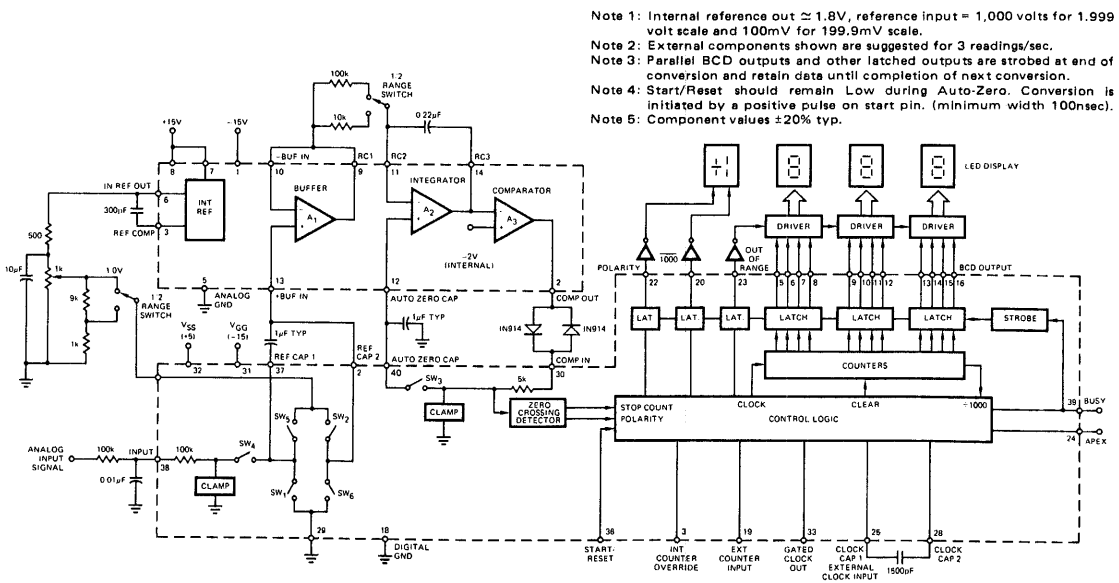

FIGURE 1. 3 1/2 DIGIT A/D CONVERTER FUNCTIONAL DIAGRAM
(1) Tested in 3 1/2 digit (2,000 count) circuit shown in Fig. 1 clock frequency 20kHz.
Figure 1 shows a typical circuit for a DVM. A minimum of external components is required since the chips have an on-board clock and a medium-quality (40ppm/°C) internal reference. The circuit also shows the switching required for two scale factors: 2.000V and 200.0mV full scale.